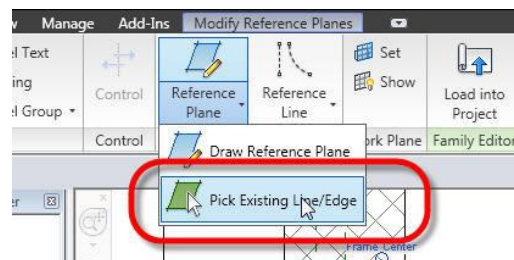

Figure 28. Using the Pick Existing Line/Edge tool to create a Reference Plane.
4. From the Create ribbon, click the arrow under the Reference Plane tool and click Pick Existing Line/Edge as shown in Figure 28. In the Options bar, set the offset to 0’-2”. Pick the Reference Plane that you just created so that there is one new Reference Plane created on either side of it.